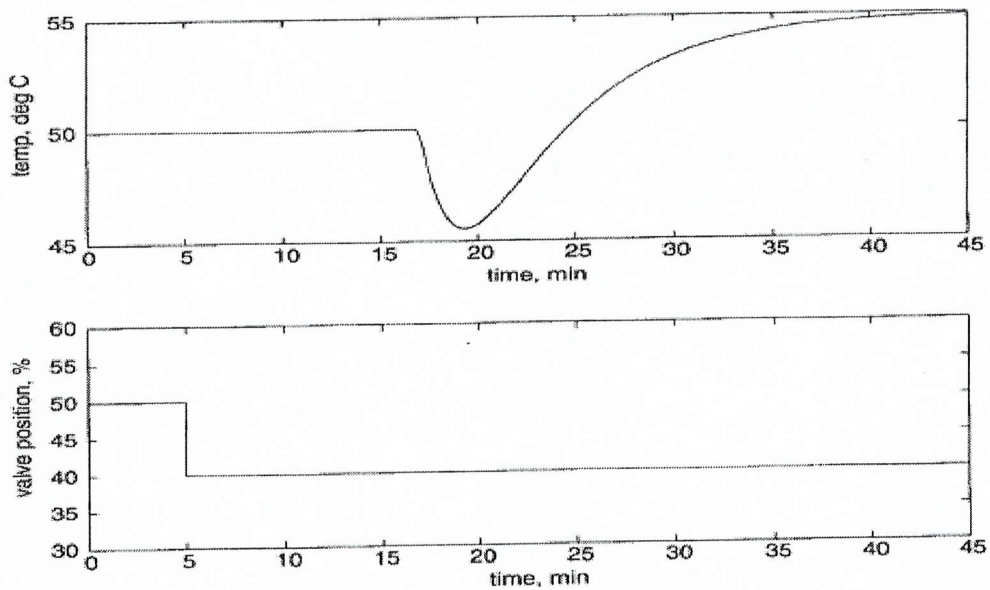

Figure Q.4. [a] : Step Response Behavior for a Packed-Bed Reactor
4. [a] *Packed-bed reactors often exhibit "wrong way" (inverse response) behavior. Figure Q. 4. [a] shows a step response behavior for a packed-bed reactor. A step decrease in steam valve position was made at  $t = 5$  minutes.*